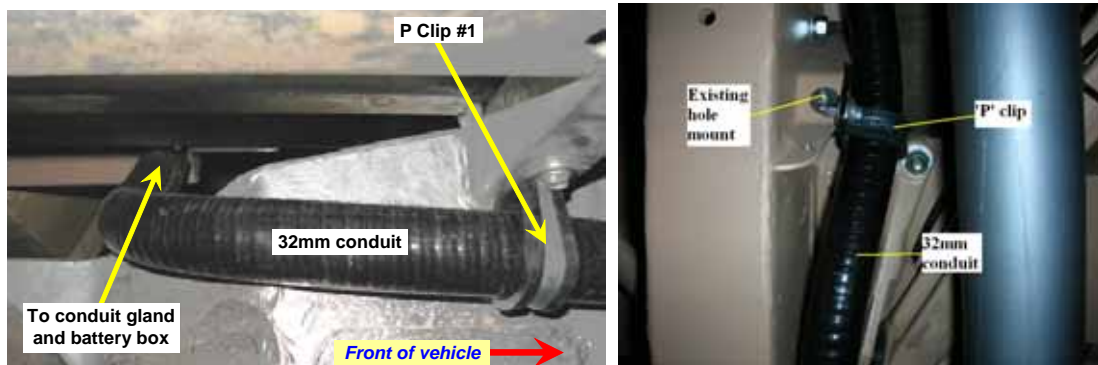

Figure 22 Conduit Routing at the Rear and Along the Side of the Left-hand Chassis Rail
- (5) At the rear, pass the gland end of the harness up and over the top of the chassis rail and into the left-hand rear wheel arch as shown in Figure 22. Pass the cable ends into the battery box and fit the conduit gland into the 32 mm hole in the back of the wheel arch. The cable connections inside the battery box will be completed later in this procedure.